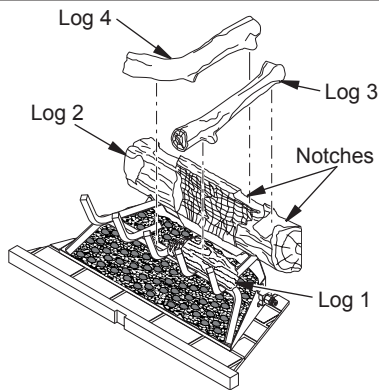

Figure 24 - Installing Logs 3 and 4
3. Place log 3 into notch on log 2, resting front end on top of log 1 (see Figure 24).
4. Place upper end of log 4 into notch on log 2 as shown in Figure 24. Rest lower end of log 4 onto middle grate finger as shown in Figure 25.